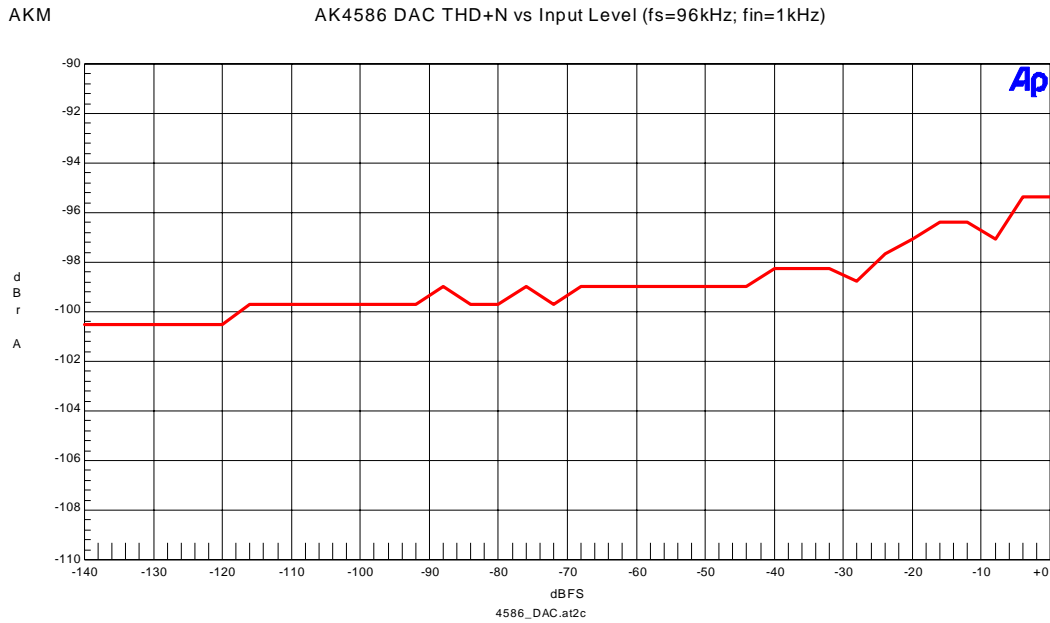

Figure 4-6. THD+N vs Input Level (fin=1kHz)
- Figure 4-6. THD+N vs Input Level (fin=1kHz)